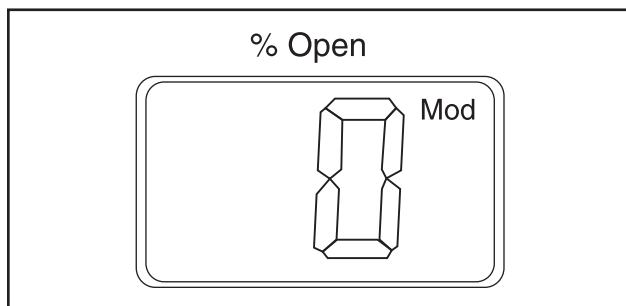

Figure 22
- Normally the Opening Degree (OD) 0 - 100% of the ICM valve is displayed. No activation of push buttons for 20 seconds means that the display will always show OD (Figure 22).